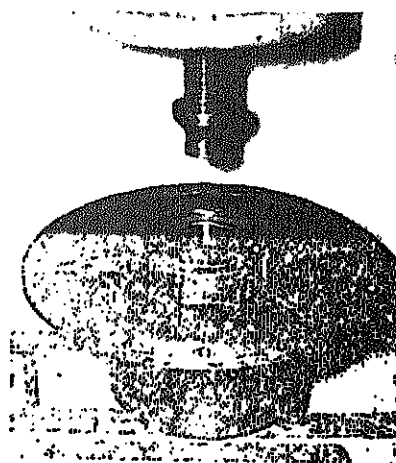

FIGURE 8-12.
p. Turn the drum hub over and place it in an arbor press. Using an appropriate size pusher, press out the large bearing (see figure 8-12).